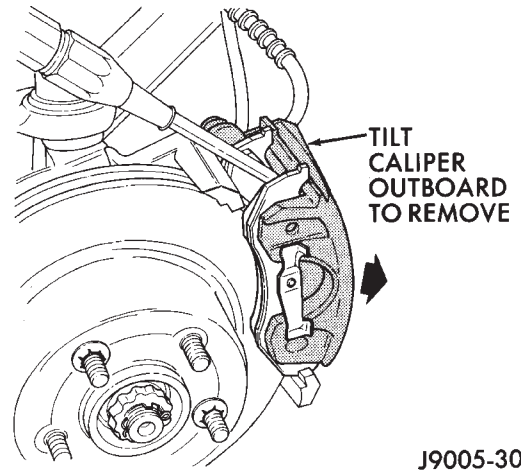

Fig. 29 Caliper Removal
(7) Tilt top of caliper outward with pry tool if necessary (Fig. 29) and remove caliper.
(8) Remove caliper from vehicle.